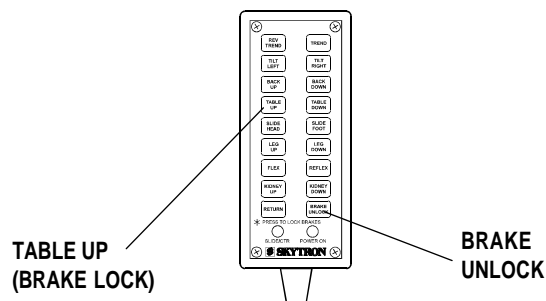

Figure 2-3. Brake System Activation
a. **Floor Lock/Brake System.** To activate the brakes without affecting table positioning, press the TABLE-UP button. See figure 2-3. The elevation cylinder will not function until the brakes are completely extended.
Press the BRAKE-UNLOCK button on the pendant control to release the four self-leveling brake feet in order to move the table. See figure 2-3. The brake delay circuit automatically retracts the brake system with just one press of the BRAKE-UNLOCK button. It takes approximately 7-8 seconds to totally release the system.